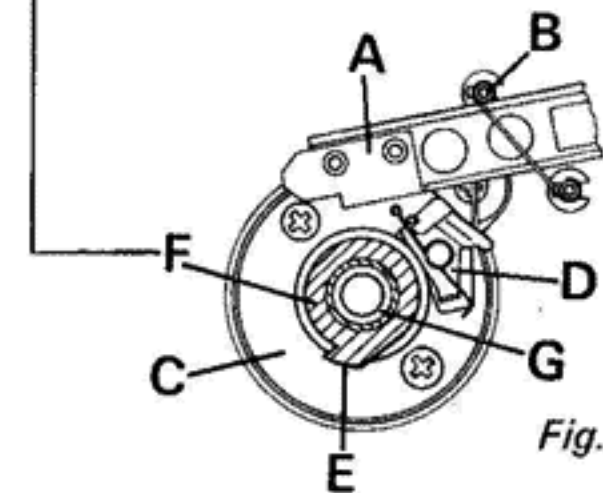

Fig. 3
- b Refer to diagram (Fig. 3).